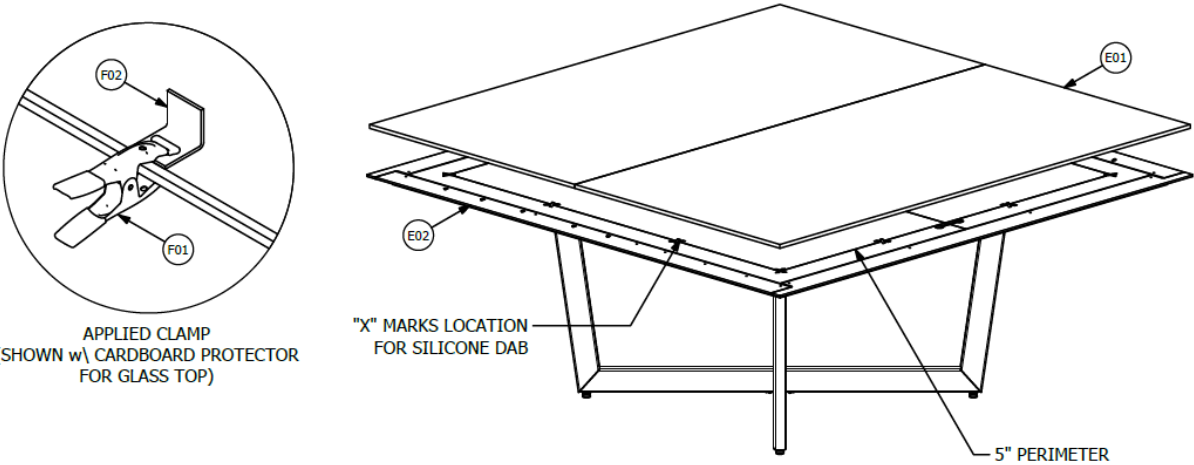

FIGURE 09: ALTERNATIVE MATERIAL TOP ASSEMBLY
1. Place a 1/2" Dab of Silicone (Y08) provided on marked locations of Subtop (E02) approximately 5" in from the Edge. See Figure 09.
2. Position **All** Top (E01) sections on Subtop (E02). See Figure 09.
3. If equipped with Edge Trim (G01), position the Top (Suction cups are recommended) so that an equal amount (1/4") of Edge Trim Shows. If not equipped with an Edge Trim, center the Top on the Subtop. See Figure 09.